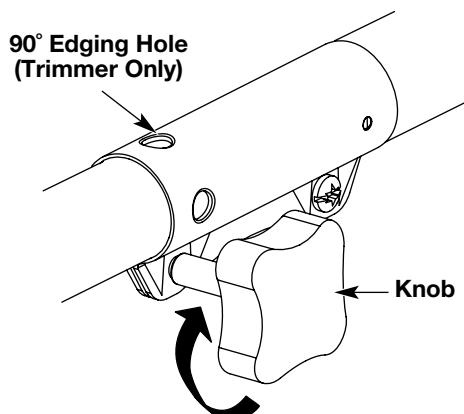

Fig. 16
3. Turn the knob clockwise to tighten (Fig. 16).
For edging (when using the line head cutting attachment with EZ-Link™ models), lock the release button of the cutting attachment into the **90° edging hole** (Fig. 16).